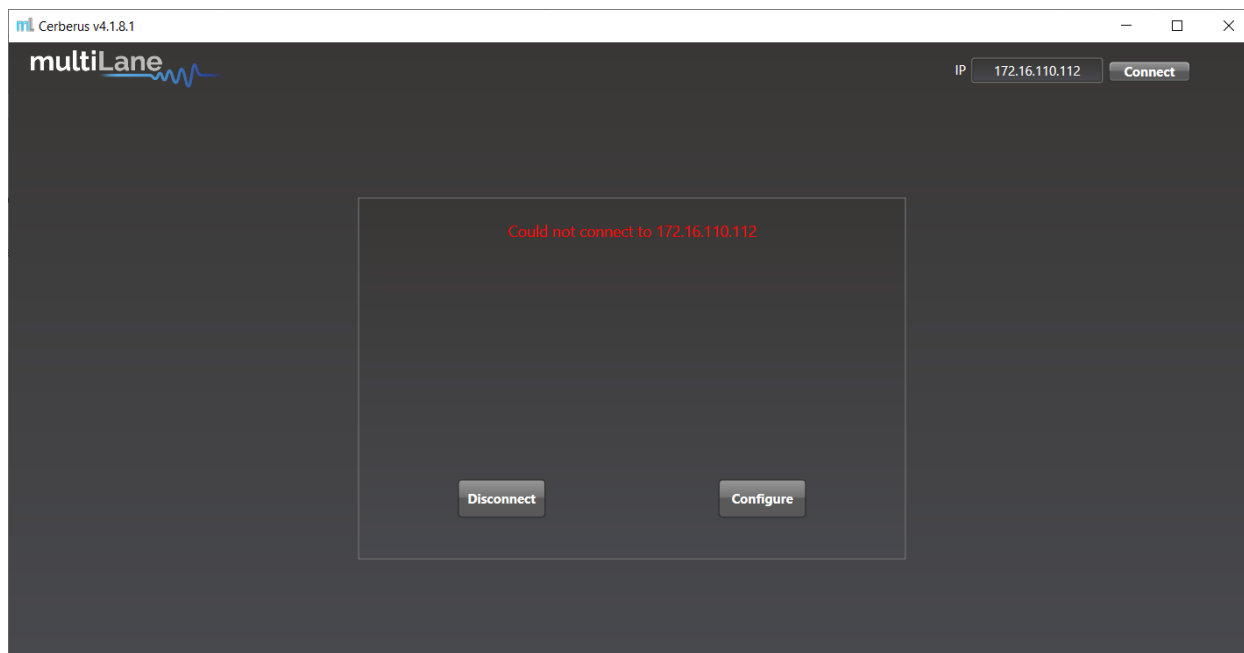

Figure 3: Connection failure notification.
| Figure 3: Connection failure notification. | 9 |
- In the case of a connection failure, a pop-up message will appear indicating a connection error (Figure 3).